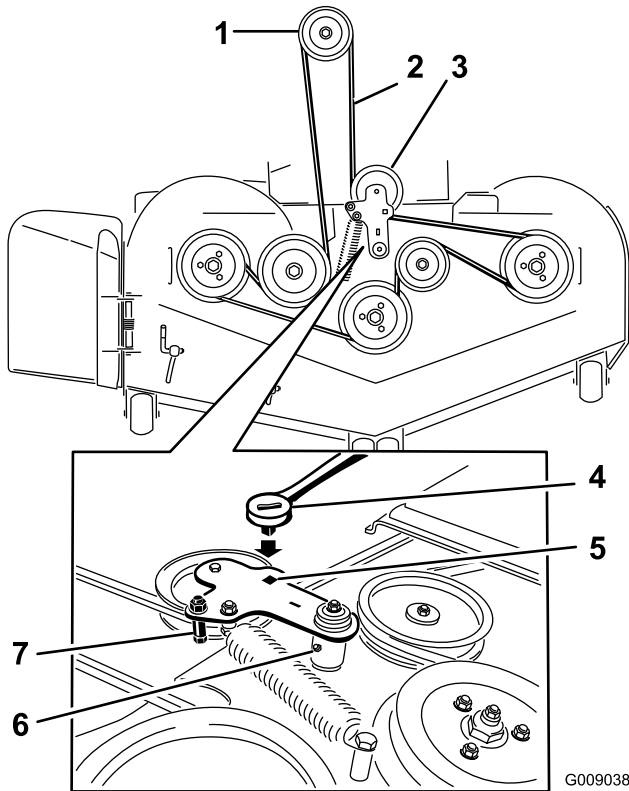

Figure 98
- Lift up the floor pan and insert a ratchet into the square hole in the deck idler (Figure 98).
- Rotate the deck idler clockwise and remove the mower belt (Figure 98).